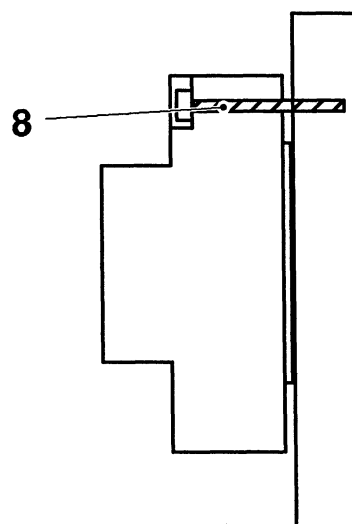

Fig. 3
- b) Undo the nut (2), the screws (3) and (4) and remove the end section (5).
- c) Remove the powder brake unit (6) from the shaft.
- d) Undo the screws (7) to cable bracket.
- e) Undo the three screws (8) that are through, see fig. 3.